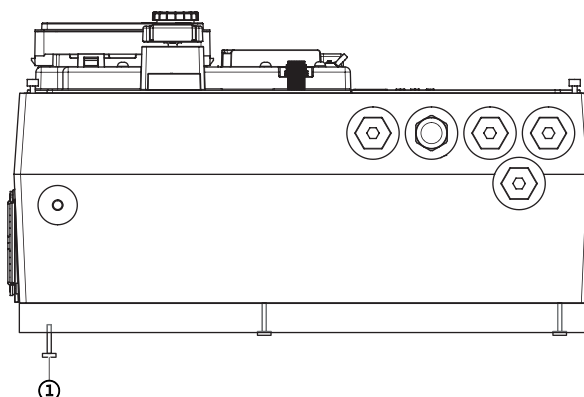

Fig. 115: Loosen adapter plate
6. Loosen the screws of the adapter plate on the bottom of the electronic module (Fig. 115, Item 1).